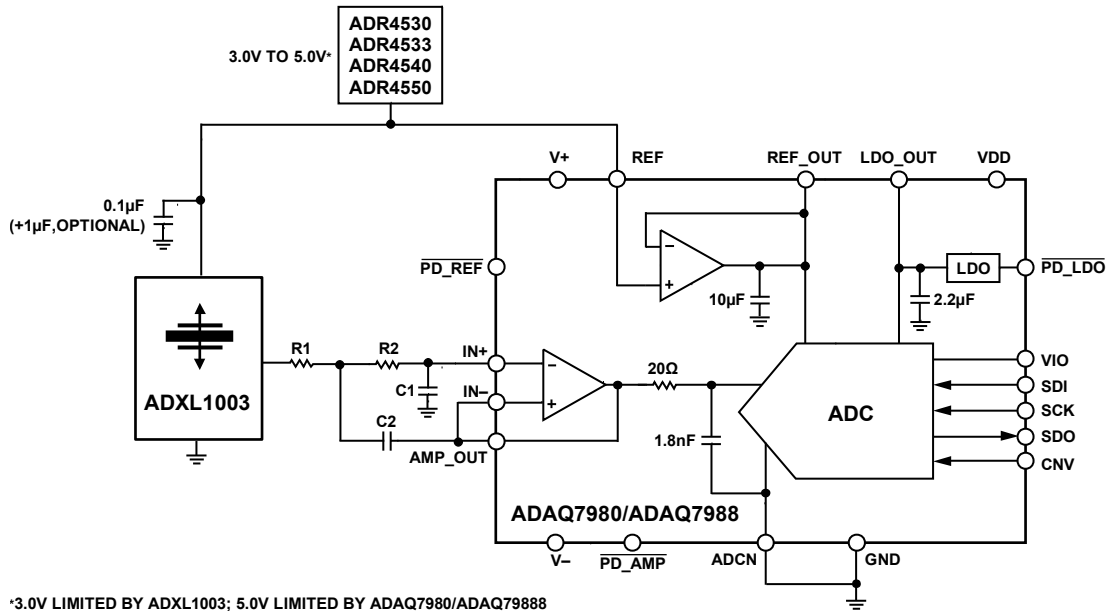

Figure 23. Application Circuit for the ADXL1003
See Figure 23 for an example of the interface, including components when measuring mechanical vibration from 0 kHz to 5 kHz. For a 5 kHz pass band, a single-pole resistor capacitor (RC) filter is acceptable. However, in some applications, use of a more aggressive filter and lower sample ADC sample rate is possible. The following components are recommended to form a 5 kHz low-pass RC filter at the output of the ADXL1003 when interfacing to an ADC, such as the ADAQ7980: $R1 = 5\text{ k}\Omega$, $C1 = 5\text{ nF}$, $R2 = 0\ \Omega$, and $C2$ are not required. A minimum ADC sample rate of 20 kHz is recommended to avoid aliasing. When using sampling rates less than the resonance frequency (typically 28 kHz), be aware and account for the effective gain at the output of the sensor due to the resonance to ensure out of band signals are properly attenuated and do not alias into the band.
See Figure 23 for an example of the interface, including components when measuring mechanical vibration from 0 kHz to 10 kHz. The following components are recommended to form a two-pole RC filter at the output of the ADXL1003: $R1 = 5\text{ k}\Omega$, $C1 = 2\text{ nF}$, $R2 = 5\text{ k}\Omega$, and $C2 = 2\text{ nF}$. A minimum ADC sample rate of 200 kHz is recommended to avoid aliasing.